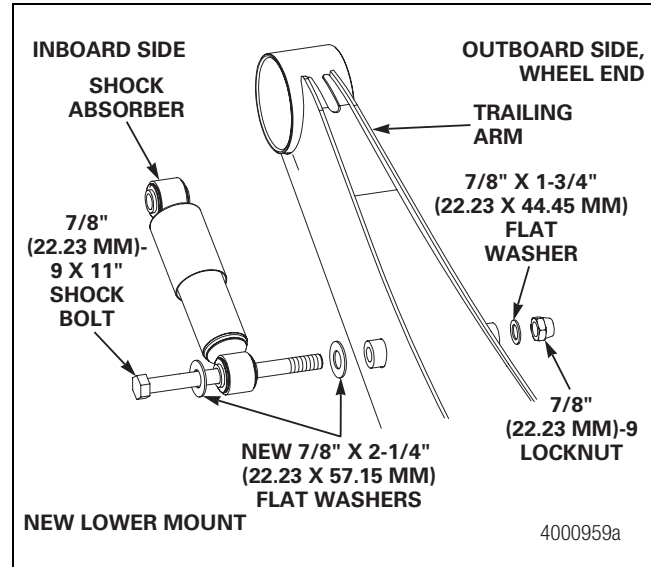

Figure 4
- Install the new 7/8-inch x 2-1/4-inch O.D. (22.23 x 57.15 mm) washer between the bolt head and shock absorber. Install a new, larger washer between the shock absorber and the shock tube. Figure 4.
7. Install the new 7/8-inch x 2-1/4-inch O.D. (22.23 x 57.15 mm) washer onto the lower shock absorber bolt. Install the shock absorber, then the larger washer between the shock absorber and shock tube. Install the washer and locknut. Hand-tighten the nut. Figure 4.